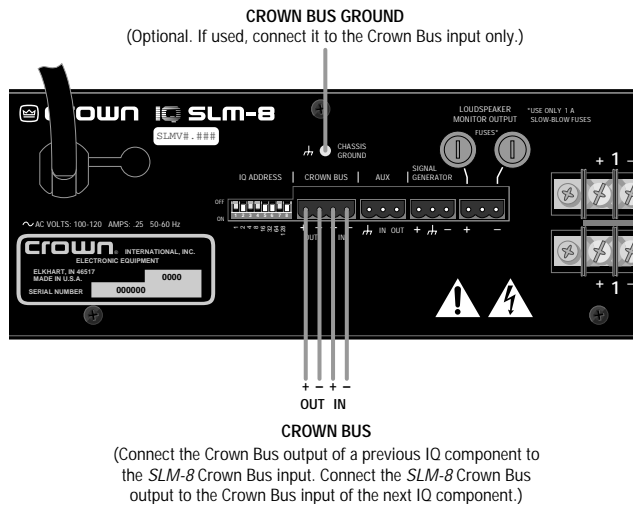

Fig. 4.4 SLM-8 Crown Bus Wiring
Step 3: Connect the SLM-8 to the IQ System via the Crown Bus. See Figure 4.4 below. To comply with FCC regulations, an EMI suppression core should be added (Section 4.9). See Section 4.6 if additional Crown Bus wiring instructions are needed.